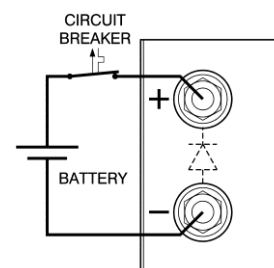

fig 4 - 8
Use a CIRCUIT BREAKER in series in order to protect the power supply from **accidental reverse connection** (see fig. 4 - 8). The circuit breaker should have a DC voltage rating twice the battery voltage. Use the very fast type (Z), a type meant for protecting semiconductors (see table 4 - 2).
- The Remote ShutDown can be operated on CON E by a voltage of +4 V...+12 V or by a relay contact between Vref and Remote ShutDown (pin 9 and 5) (see fig. 4 - 9).